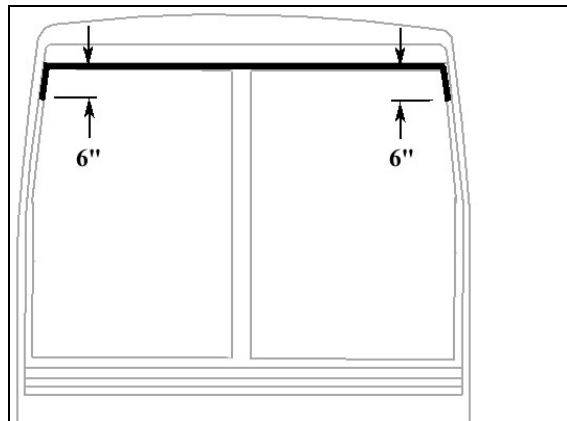

FIGURE 19: APPLICATION OF SIKA 221 BLACK
- Apply Sika 221 black (Figure 19) between fiberglass and rubber extrusion